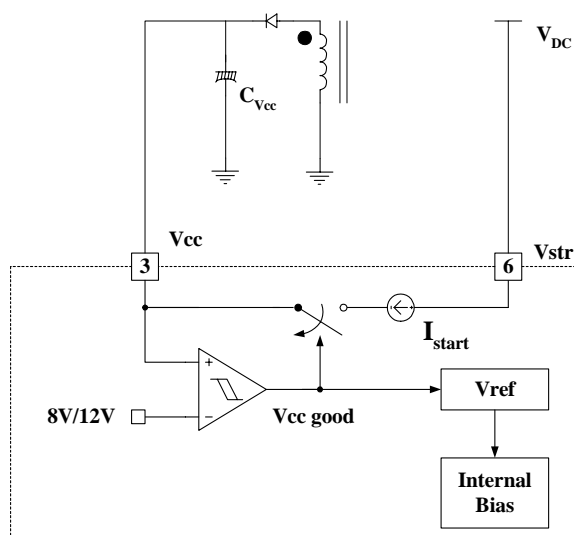

Figure 4. Internal startup circuit
**1. Startup** : In previous generations of Fairchild Power Switches (FPS™) the Vcc pin had an external start-up resistor to the DC input voltage line. In this generation the startup resistor is replaced by an internal high voltage current source. At startup, an internal high voltage current source supplies the internal bias and charges the external capacitor (CVcc) that is connected to the Vcc pin as illustrated in Figure 4. When Vcc reaches 12V, the FSDM07652RB begins switching and the internal high voltage current source is disabled. Then, the FSDM07652RB continues its normal switching operation and the power is supplied from the auxiliary transformer winding unless Vcc goes below the stop voltage of 8V.